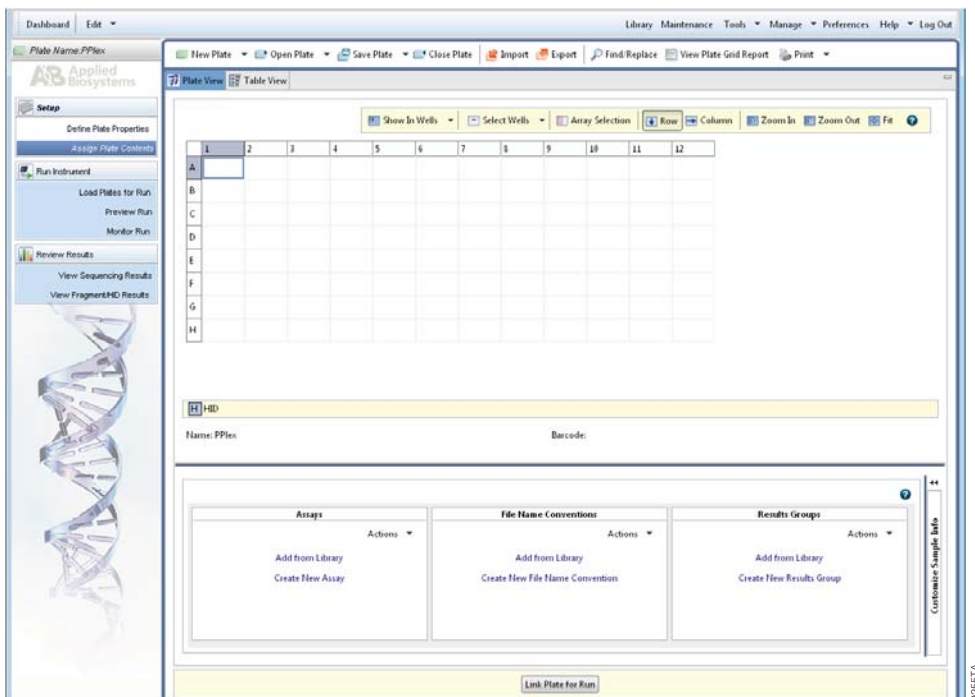

Figure 10. Assigning plate contents.
10. Select “Assign Plate Contents” (Figure 10).